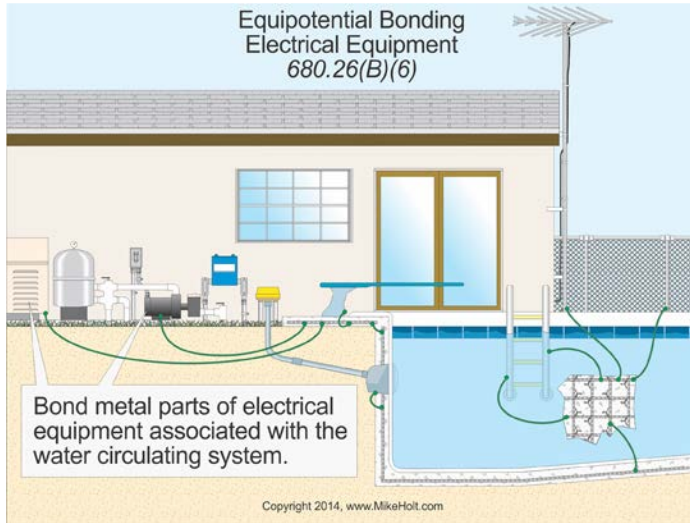

Figure 680-45
(6) Electrical Equipment. Metal parts of electrical equipment associated with the pool water circulating system, such as water heaters, pump motors, and metal parts of pool covers must be bonded to the equipotential grid. *Figure 680-45*